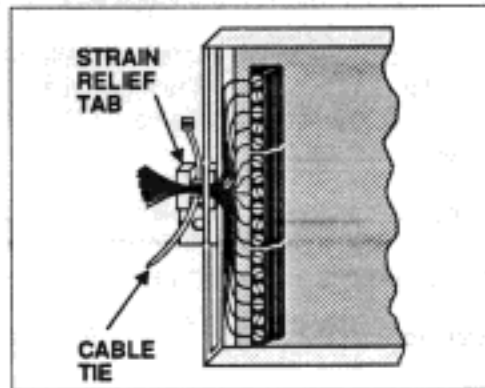

Figure 7: Insert the Cable Tie
2. Bunch the wires attached to the D2071A together (see Figure 7). Make sure none of them become disconnected.